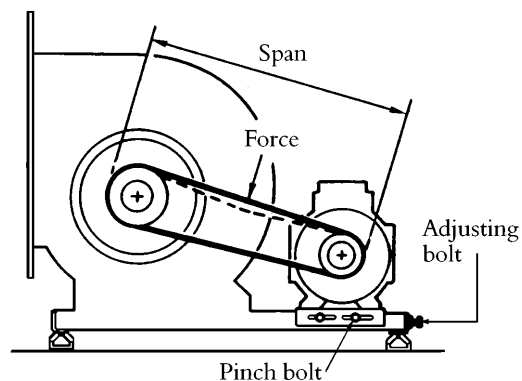

Fig. 15 Tensioning the drive belts on size 'D' units.
1. Measure the span length (See fig. 15).